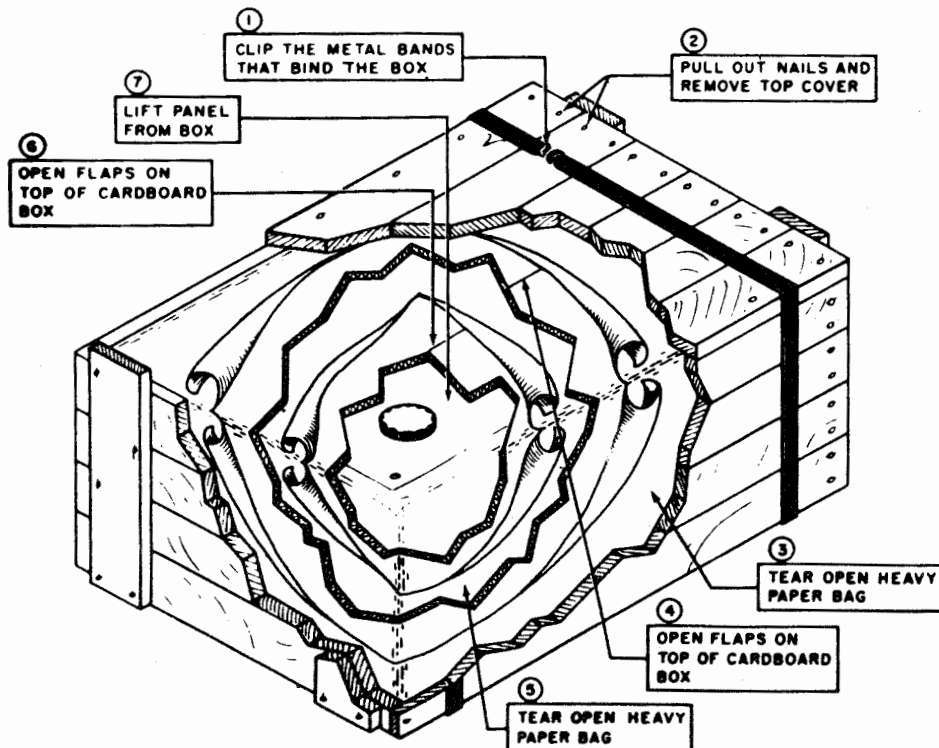

Figure 2-1. Unpacking Procedures
b. UNPACKING. - The equipment should be unpacked with caution and should be handled in the same manner as any electrical or electronic instrument. The units are packed in cartons within a wooden box (See figure 2-1.) Two copies of the technical manual come packed inside the top cover of the carton marked "Communication Patching Panel" or "Teletypewriter Panel". When the shipping carton has been opened, inspect for signs of damage as a result of shipment. When satisfied that the container is in proper condition, unpack carefully so that no damage occurs to the panel face, meter, or knobs.